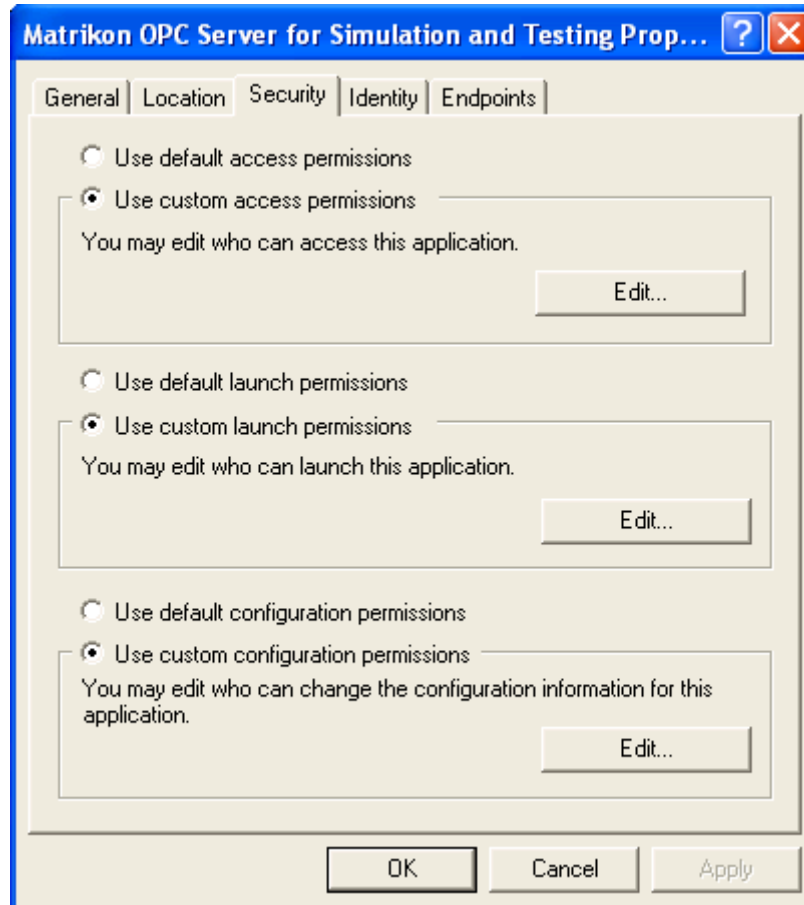

Figure 41 - Distributed COM Configuration Security Tab
5. The **Distributed COM Configuration Security** tab (Figure 41) appears.